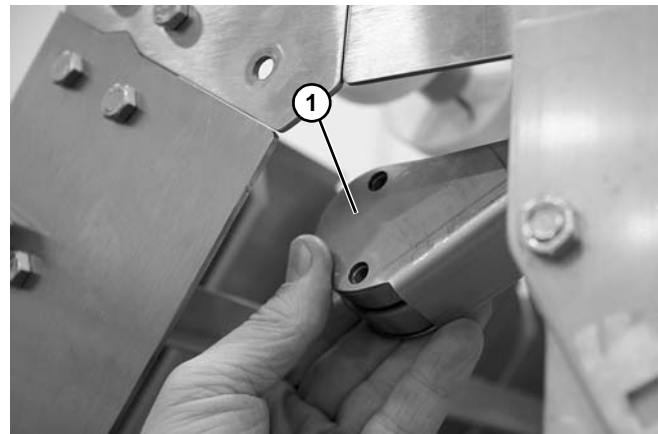

Figure 9
3. Remove bearing guard (**Figure 9, item 1**) with bearing.